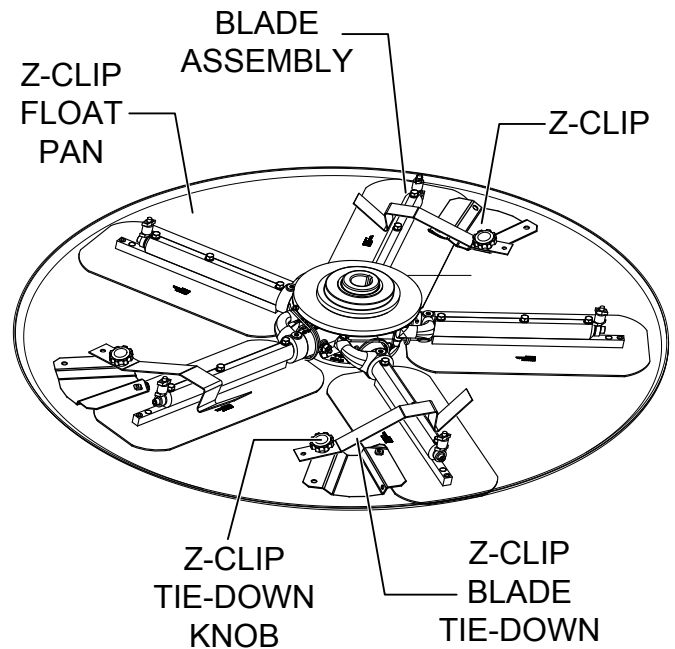

Figure 4. Z-clip Float Pan Installation
6. Attach the Z-clip blade tie-downs (3) to the far side of the Z-clips (3) and secure with Z-clip tie-down knobs as shown in Figure 4.
7. Check to make sure that the blade edges are secured under the Z-clips and the blade tie-downs are secured completely over the edges of the blade bar (Figure 4) before the machine is put back into operation.